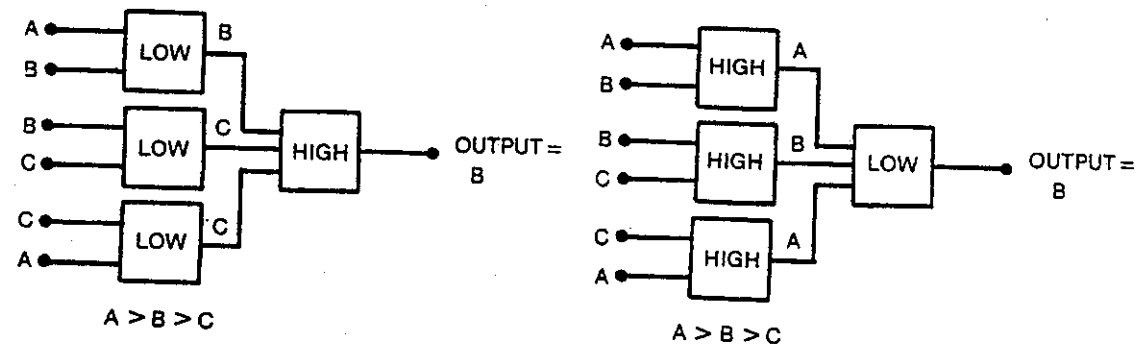

Figure 14: Two Median Select Block Diagrams.
- The median selector can take either of the forms shown in Figure 14.